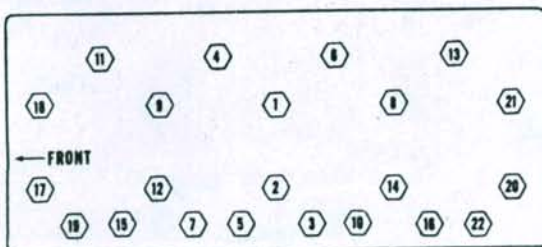

Fig. 88—Tighten the cylinder head stud nuts and retaining screws in the order shown. Loosen in reverse order to prevent warpage while removing.
**76. REMOVE AND REINSTALL.** To remove the cylinder head, drain cooling system and remove hood. Disconnect fuel gage sending unit wire, main fuel line and fuel return line, then remove fuel tank, heat shield and support plate. Disconnect upper radiator hose, air cleaner hose, water temperature gage sending unit wire and breather tube. Remove intake and exhaust manifold, fuel leak-off line, fuel leak-off manifold, high pressure fuel lines, injectors, rocker arm cover and rocker arm shaft assembly. Lift out all of the push rods, then loosen cylinder head stud nuts and retaining cap screws in reverse of order shown in Fig. 88.
DRY" marking toward top front. Install the head and tighten fasteners in sequence shown in Fig. 88 in 27 N·m (20 ft.-lbs.) increments until final torque of 135 N·m (100 ft.-lbs.) is obtained. Loosen rocker arm adjusting screws several turns to ensure valves do not contact the pistons, then install rocker shaft assembly and tighten retaining nuts to 33 N·m (24 ft.-lbs.) torque. Valve clearance cold should be 0.30 mm (0.012 inch). Refer to paragraph 81 for adjustment procedure.